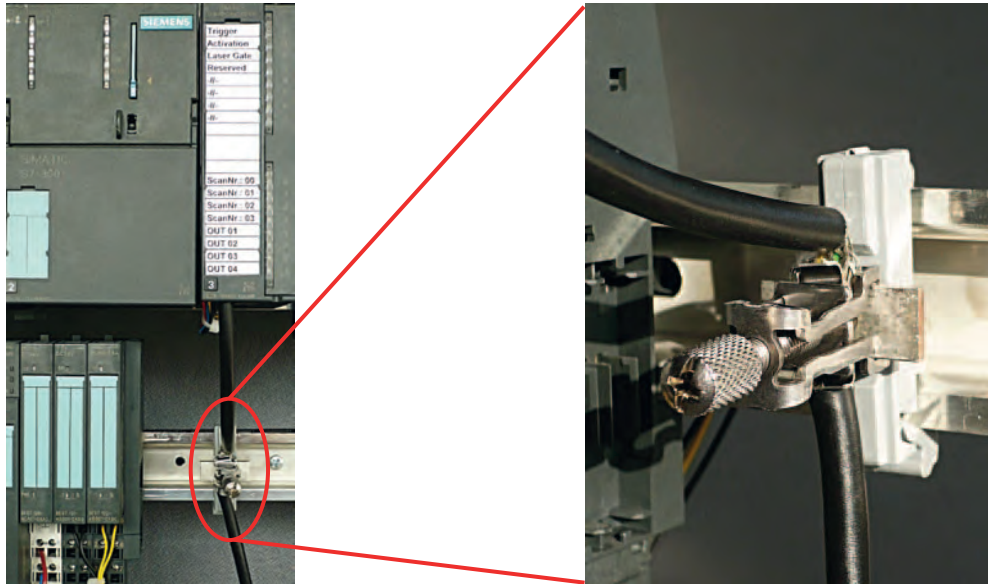

Figure 7.3: Connecting the cable shielding to the PLC
- ⚡ Clamp the shield flat to FE in the PLC (see figure 7.3).